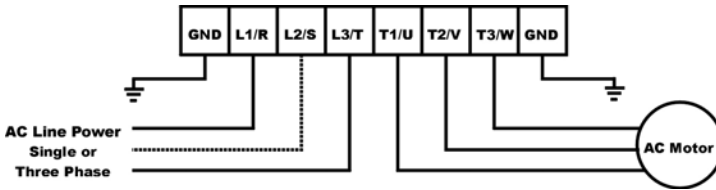

Figure 7: Vacon 500x Power Terminals
Note that earth ground is on the terminal strip (see Figure 7). Dynamic brake (DB) connections are not on the terminal strip, but on "fast on" (spade) connectors for models up to 18.5 kW/30 HP, and on the terminal strip for models 30 kW/40 HP and larger. See page 33 for specific information about dynamic braking.